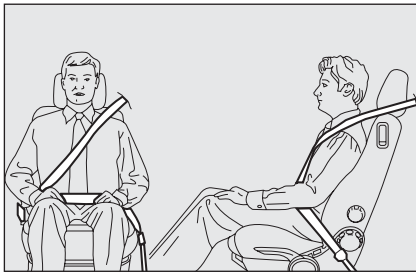

fig. 7
**IMPORTANT** The belt should not be twisted. The upper part should pass over the shoulder and cross the chest diagonally. The lower part should adhere to the pelvis (as illustrated in **fig. 7**) and not to the abdomen of the passenger. Do not use any objects (pegs, stoppers, etc.) to keep the belts away from the body.